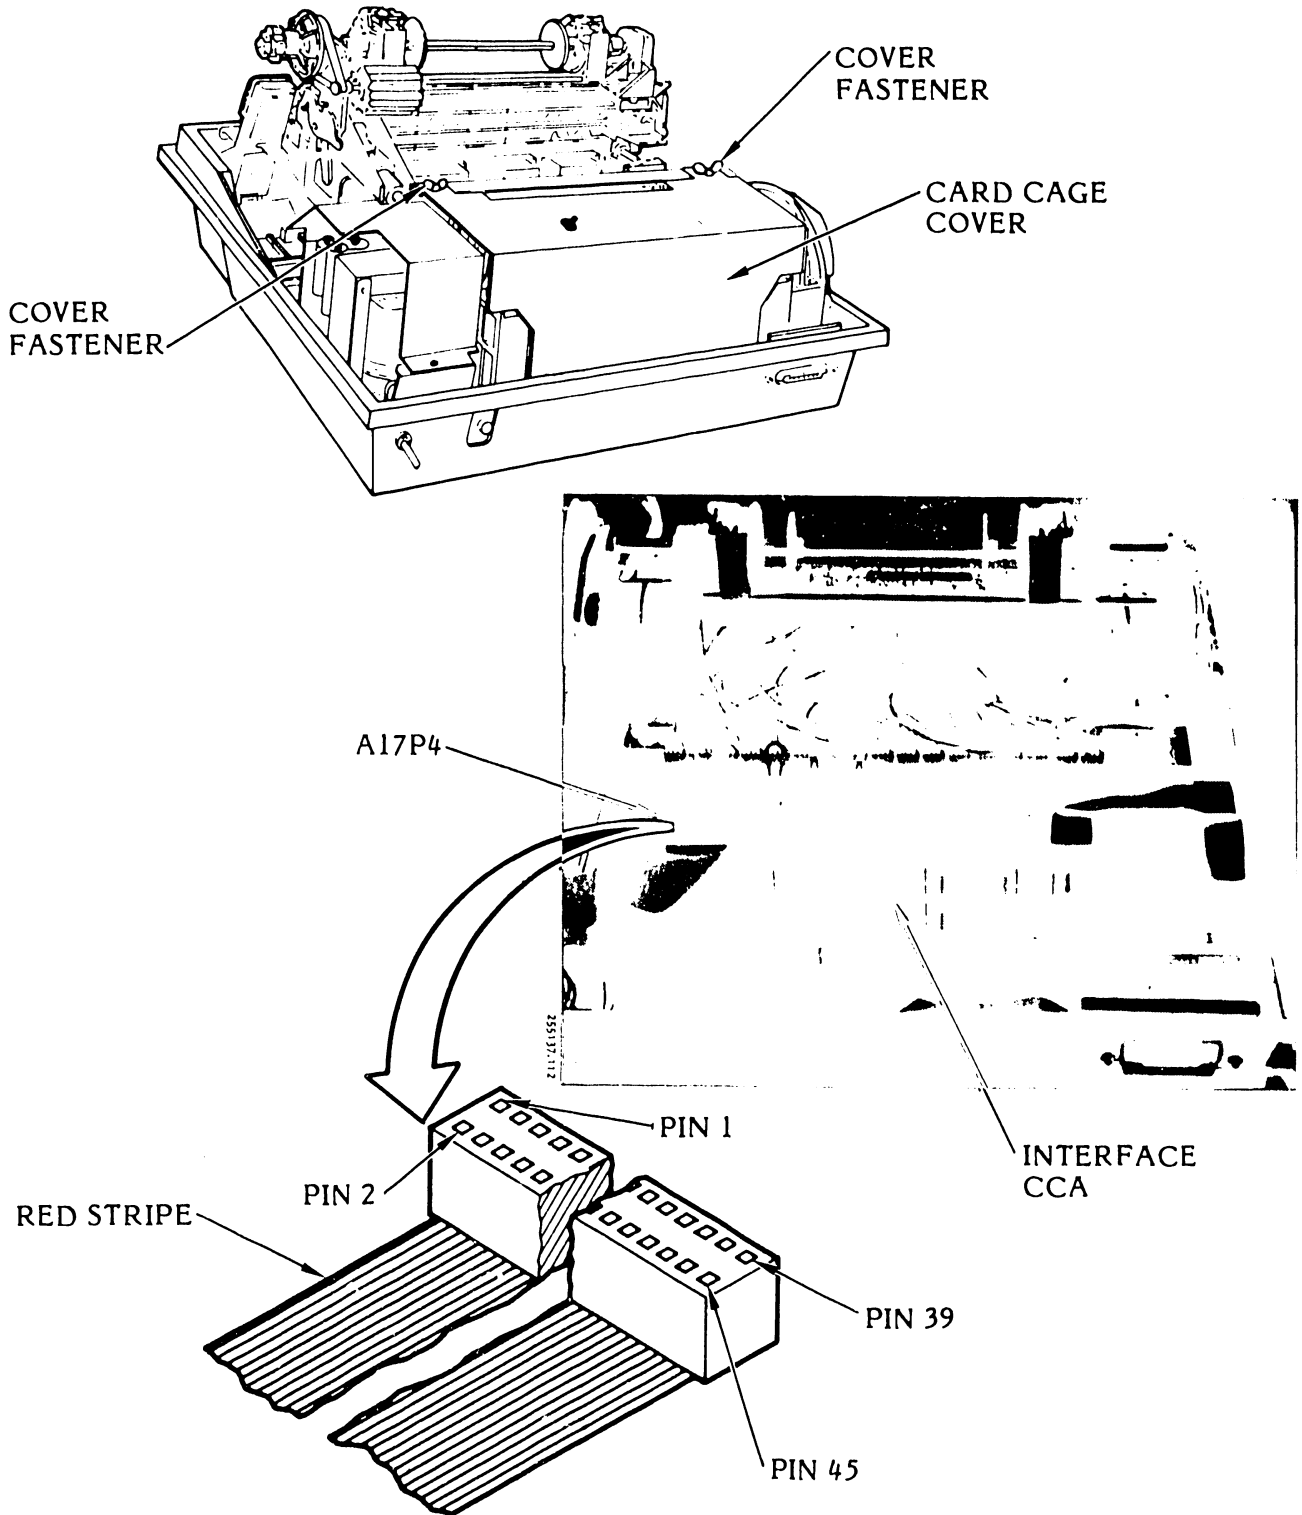

Figure 3-22. PHASE/COPIES Controls Resistance Test, Connector/Pin Locations
3.5.7 PHASE/COPIES Controls Resistance Test (Figures 3-22, 3-23)
- e. Unplug the control panel cable (A17P4) from the Interface CCA connector J4 (see figure 3-22).